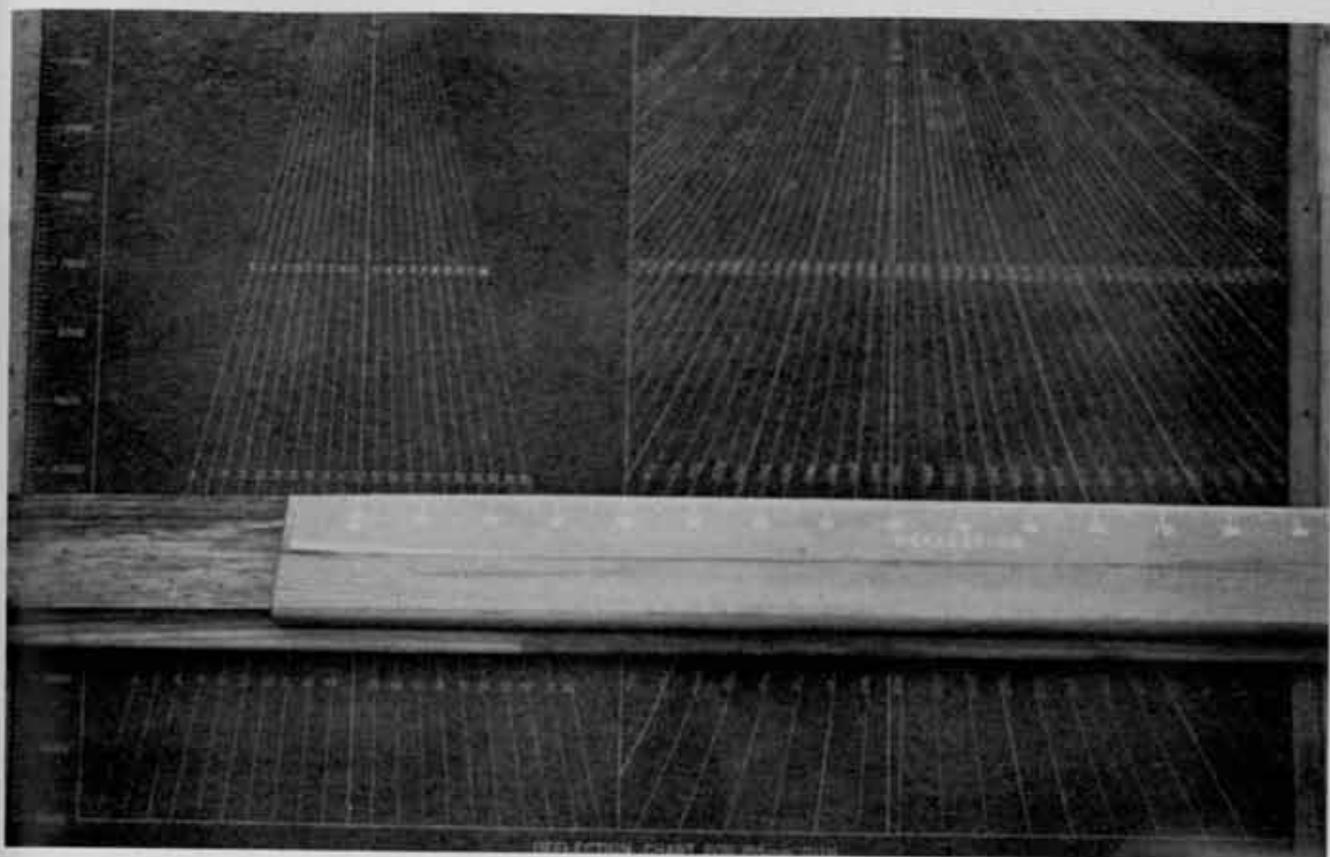

Figure 5: Deflection board and chart for 155-mm. gun
*General Description.* Figure 5 illustrates a deflection chart and board of simple construction which can be operated very easily and quickly. The curves at the right of the chart are drawn to combine drift with angular travel during the time of flight for varying rates of angular travel during one observing interval. Since the chart in the illustration was drawn for 155-mm. guns the time interval used was 15 seconds. To simplify the work of drawing the curves a table should be prepared showing the deflection for each one thousand yards of range that would result for various assumed rates of